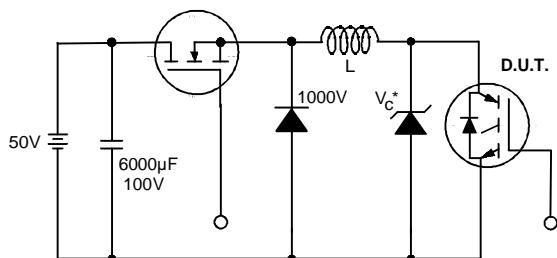

Fig. 19 - Clamped Inductive Load Test Circuit
- ② $V_{CC}=80\% (V_{CES})$, $V_{GE}=20V$, $L=10\mu H$, $R_G = 23\Omega$ (figure 19).
- ③ Pulse width $\leq 80\mu s$; duty factor $\leq 0.1\%$.
- ④ Pulse width $5.0\mu s$, single shot.
- ⑤ When mounted on 1" square PCB (FR-4 or G-10 Material).